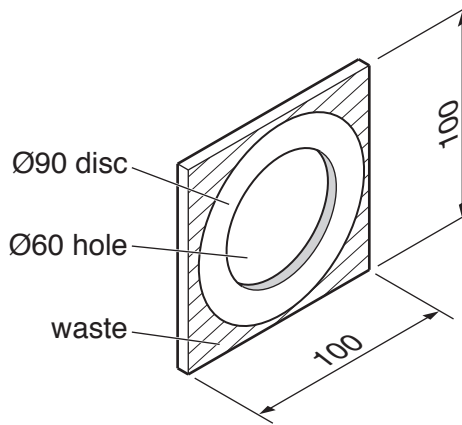

Fig. 14
- (c) Fig. 14 shows one disc marked out, ready to be cut to shape. The $\text{\O}60$ hole has been drilled in the disc.